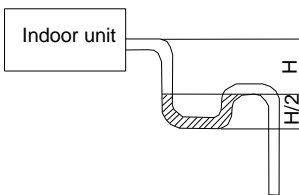

Fig. 4.21
- (4). When the drain hose cannot keep a sufficient gradient, it is necessary to fit a riser pipe (field supplied) to it.
- (5). If the air flow of indoor unit is high, this might cause negative pressure and result in return suction of outdoor air. Therefore, U-type water trap shall be designed on the drainage side of each indoor unit.(Fig. 4.21)
- (6). Install one water trap for each unit.
- (7). Installation of water trap shall consider easy cleaning in the future.